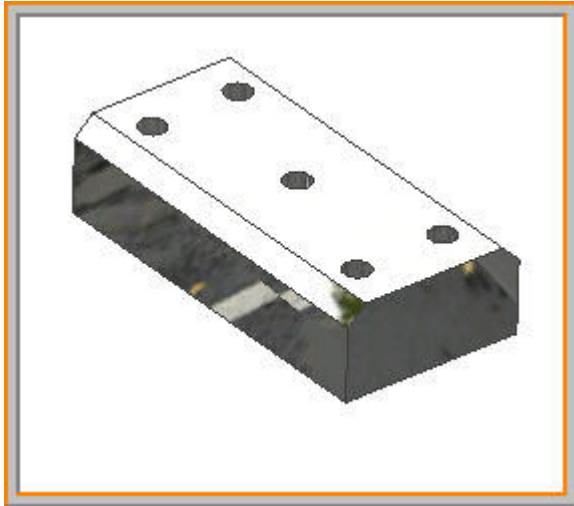

Figure 1: Part File
Step 3: If you don't have a part file with these extensions, I recommend that you create such a file. Here I will be creating a feature, shown in Figure 1.